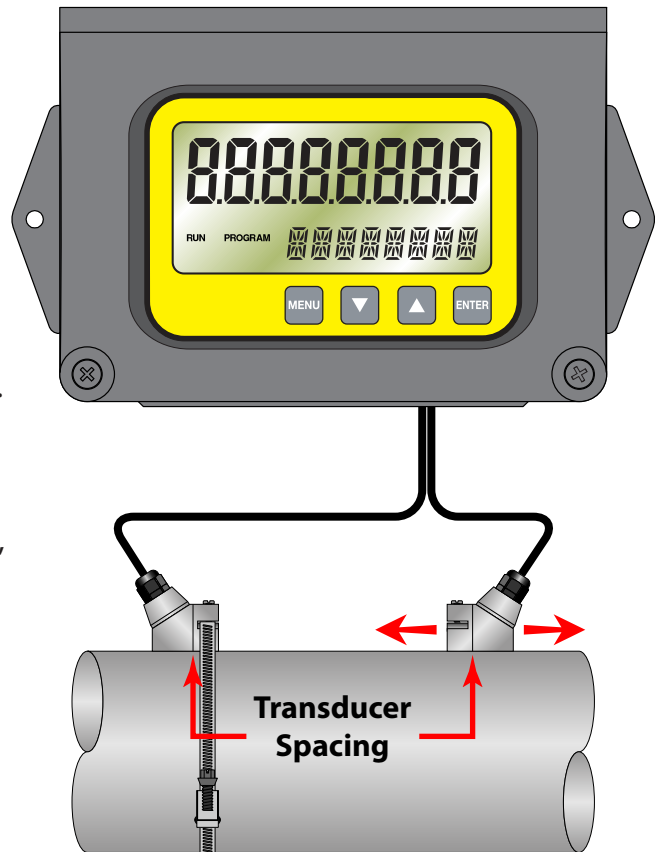

FIGURE 2.5 - TRANSDUCER POSITIONING
- 2) Place the downstream transducer on the pipe at the calculated transducer spacing. See **Figure 2.5**. Apply firm hand pressure. If signal strength is greater than 5, secure the transducer at this location. If the signal strength is not 5 or greater, using firm hand pressure slowly move the transducer both towards and away from the upstream transducer while observing signal strength.